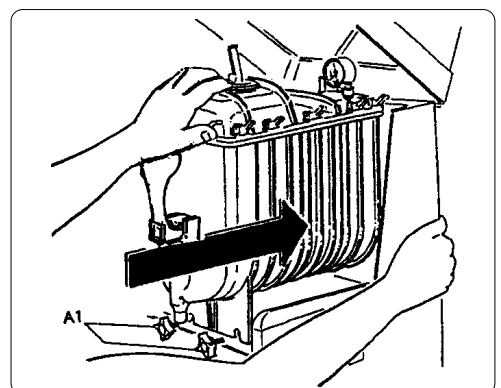

Fig. 38
- m) Remount the tank by pushing it into its seating and making sure it is perfectly sealed with the strip (I1) (fig. 38).